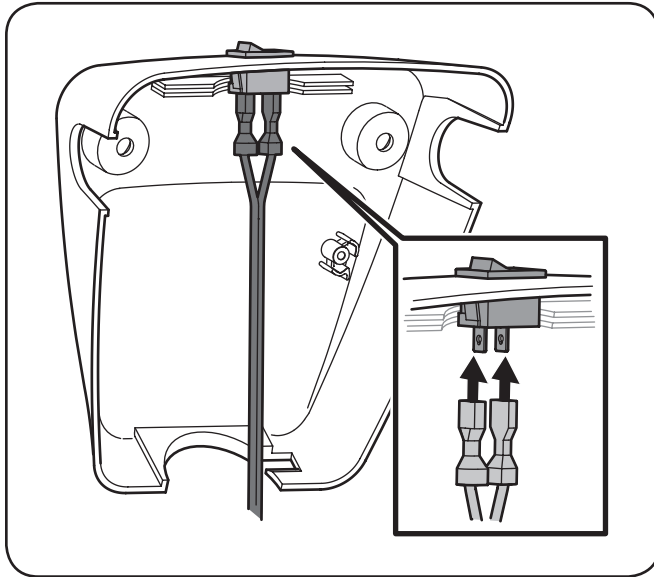

Figure 3-3
3. Install the wiring harness into the ON/OFF switch on the panel. See Figure 3-3.